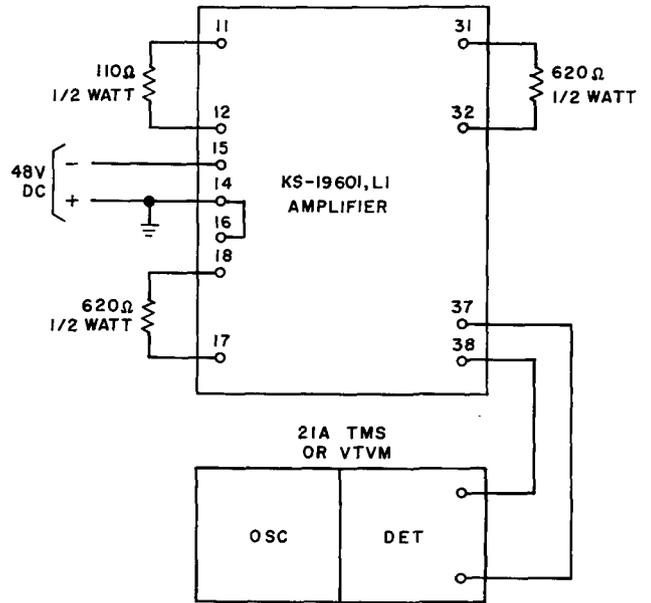

Fig. 2 — Test Setup for Measuring Noise of High-Level Channel
3.02 The noise test on the high-level channel should be made in accordance with the test setup shown in Fig. 2. The unweighted noise requirements specified in this section are based on the use of a detector (21A TMS) or a VTVM. Chart II outlines the step procedure for making the noise test.
2	Connect equipment as shown in Fig. 2. Note: If VTVM is used to measure output, the VTVM should be shunted by a 600-ohm, 1/2-watt resistor.